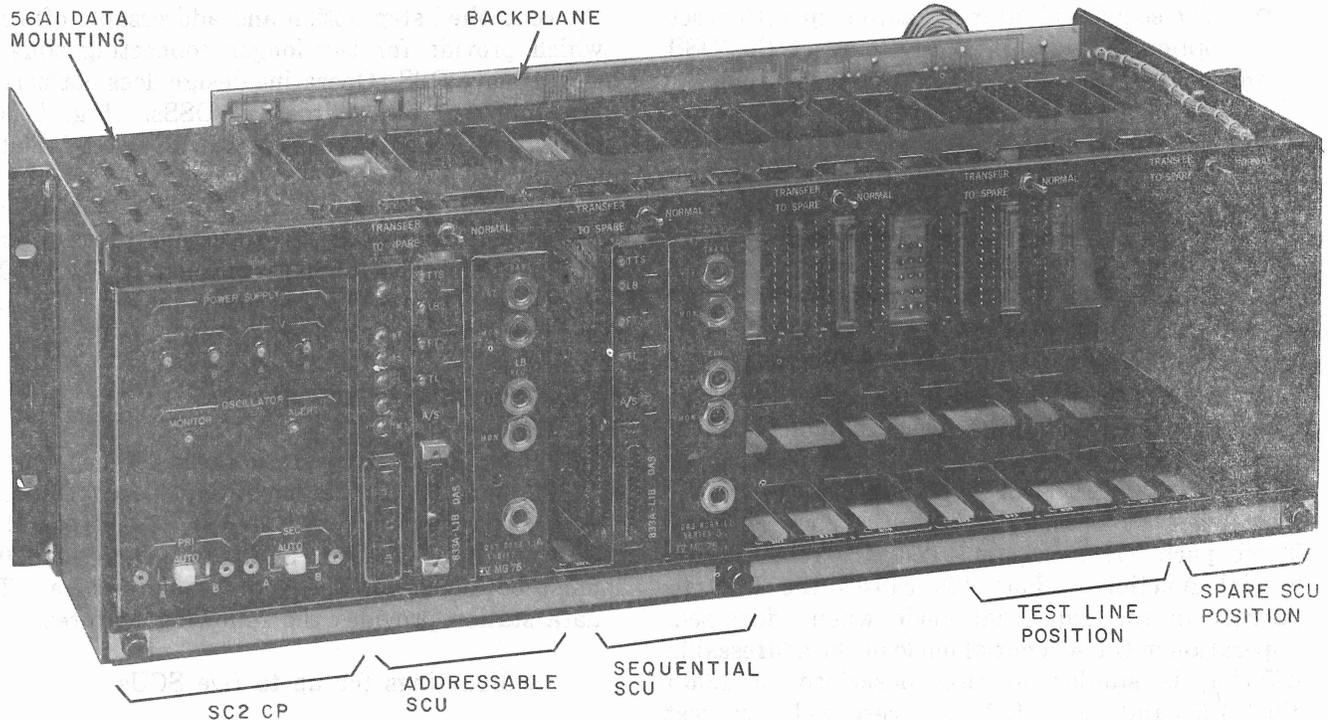

Fig. 2—833A Data Station
**2.02** An 833A data station is shown in Fig. 2 equipped with an addressable offering SCU and a sequential offering SCU. A standard 23-inch rack or a KS 20018-type cabinet may be used to house the data station. The L11A-type cabinet will house up to three data mountings and the L12A-type cabinet will house up to two data mountings.